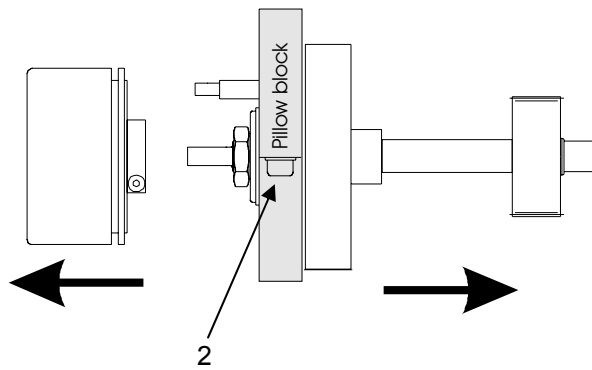

Fig. 5
5. loosen bearing clamp screw (Fig. 5/2).
Attention: Do not tighten bearing clamp screw (Fig. 5/2). It must be possible to turn the bearing easily and without resistance after tightening.